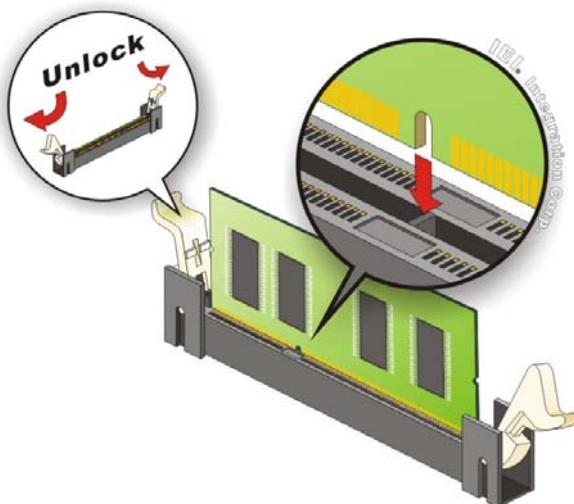

Figure 6-3: SO-DIMM Installation
Step 5: Align a new SO-DIMM so the notch on the memory lines up with the notch on the memory slot (**Figure 6-3**).
Step 6: Once aligned, press down until the SO-DIMM is properly seated. Clip the two handles into place (**Figure 6-3**).